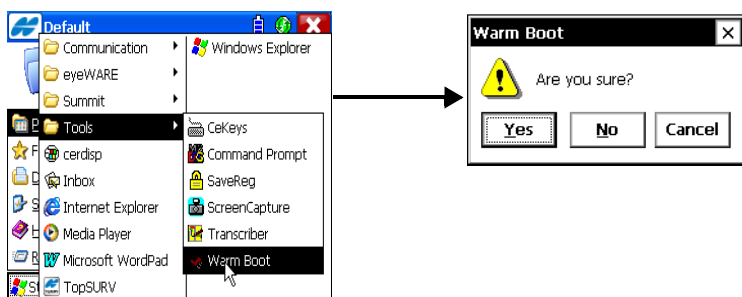

Figure 2-9. Confirmation Dialog Box
1. Tap **Start ▶ Programs ▶ Tools ▶ Warm Boot**. The **Warm Boot** confirmation window displays (Figure 2-9 on page 2-13).